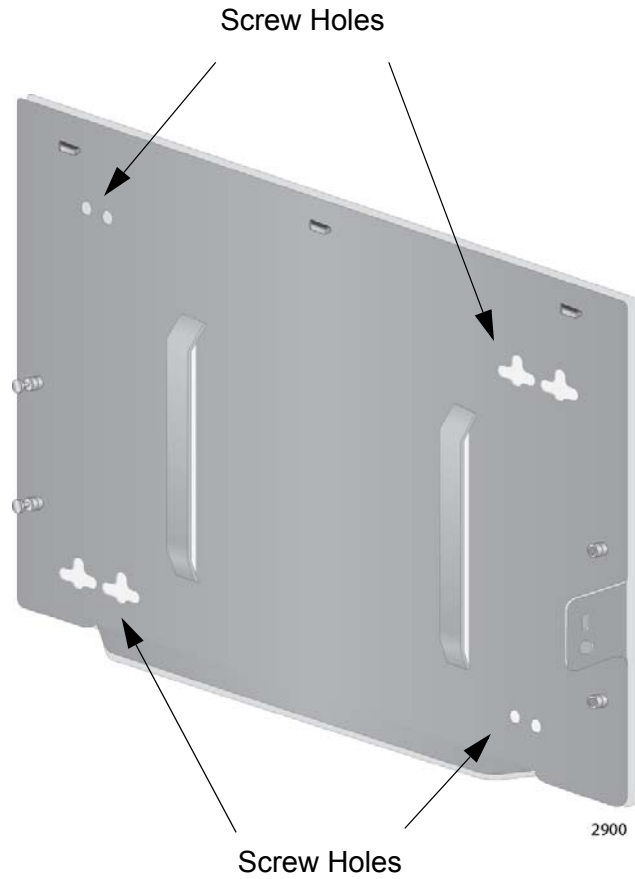

Figure 15. Screw Holes on the Bottom Panel of the AT-BRKT-J26 Bracket
- ❑ The base panel has eight screw holes. Refer to Figure 15 on page 39. The holes are grouped in pairs. The unit should be secured to the wall or ceiling with a minimum of four screws. You may use either screw hole in a pair to secure the panel.